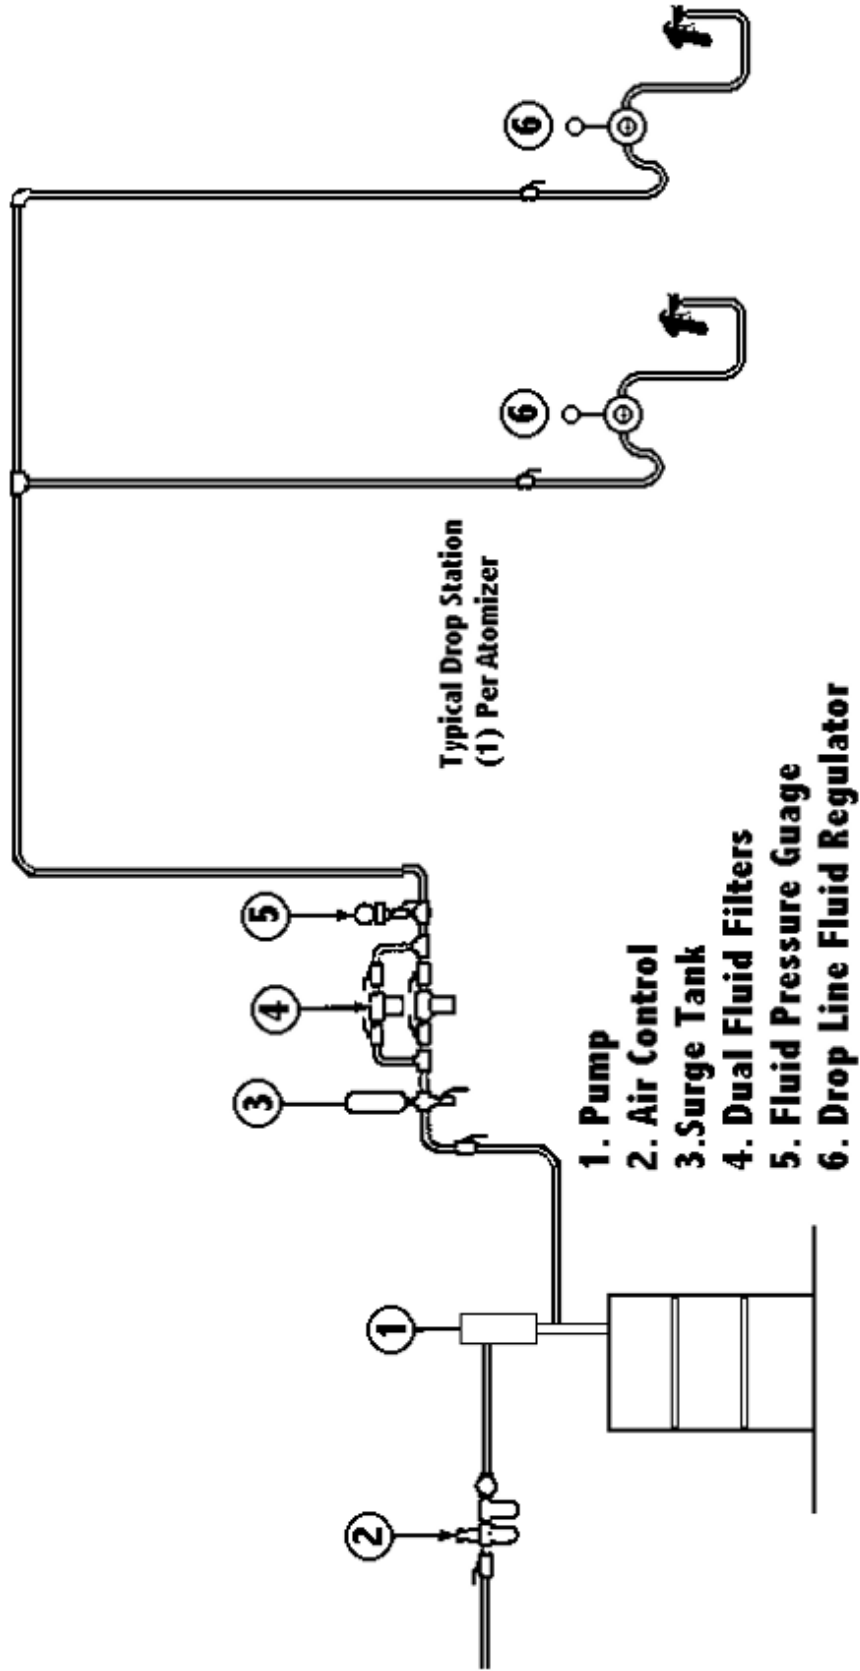

Figure 3: Dead End High Pressure System
- Use only components that can handle the pressures in the system. This includes all components in figure 3 as well as hoses, guns, fittings, etc.